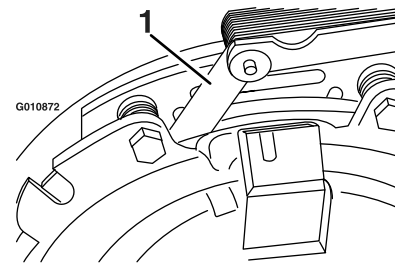
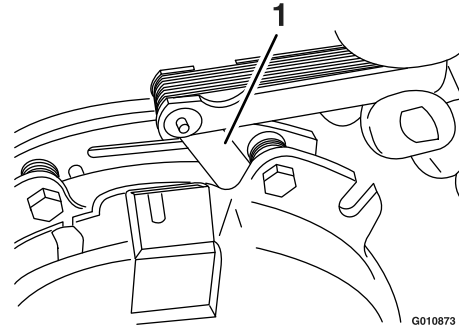

Figure 60
Figure 61
E. Using a 0.010 inch thick-feeler gauge, verify that a gap is present between the rotor and armature face on both sides of the brake pole as shown in Figure 60 and Figure 61.